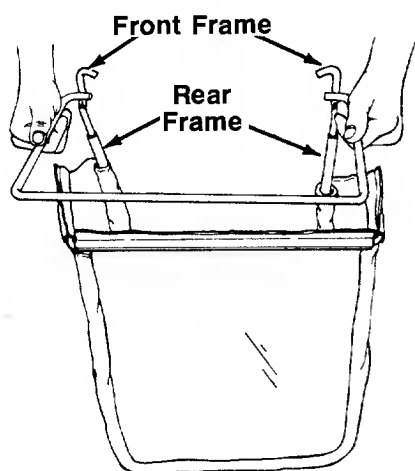

FIGURE 14.
2. Slide the ends of the front frame assembly into the ends of the rear frame as shown in figure 14